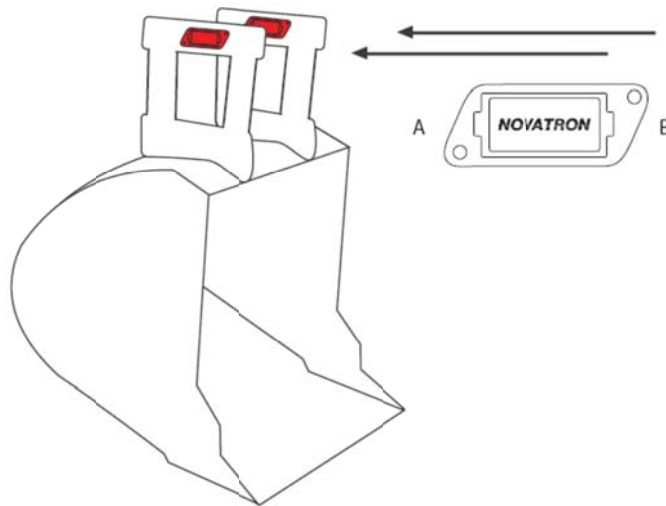

Figure 11. Installation on the inner or outer surface of the linkage (mounting orientation A1)
- A1: left side, measurement axis A pointing forward (Figure 11)